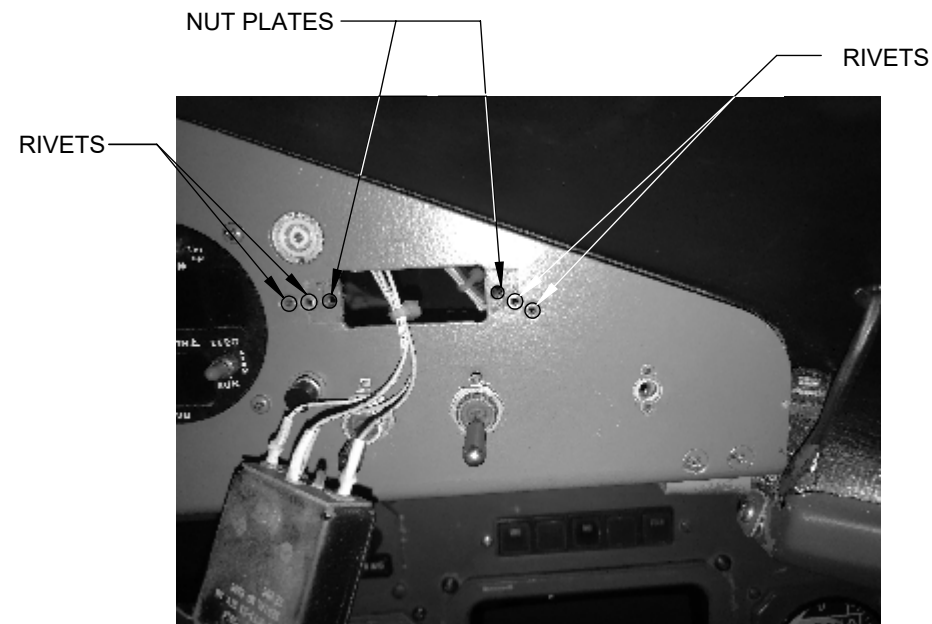

FIGURE 4
7. INSTALL SWITCHES INTO BACK OF PANEL WITH TWO SCREWS EACH. IF NUT PLATE IS PRESENT DRILL OUT SECURING RIVETS AND REMOVE THE NUT PLATE FROM THE PANEL. TAKE CARE TO REMOVE THE NUT PLATES WITHOUT CREATING FOD. (FIGURE 4)